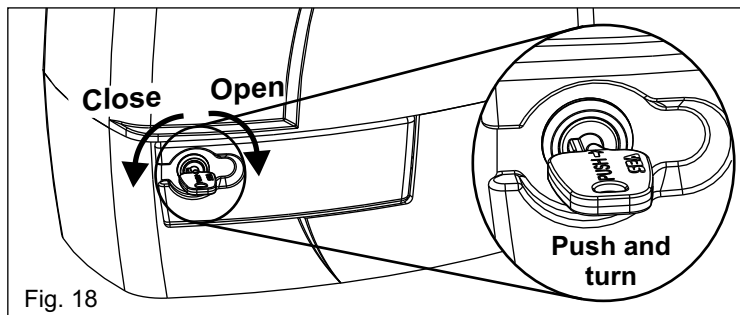

Fig. 18
- Insert the key, **push** and turn about 90° clockwise (Fig. 18).